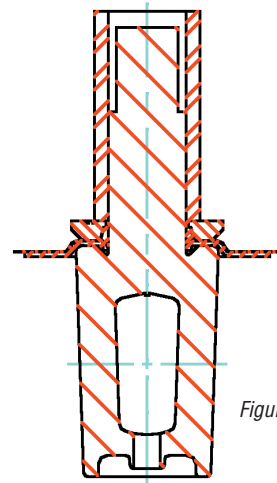

*Figure 21*
8. The thrust gland (Part 7) is then assembled over the plug and driven into place using the thrust gland guide, part series BY90431 and arbor press (Figure 21).